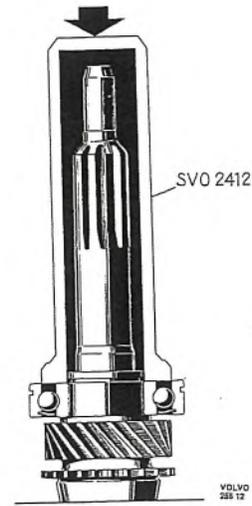

Fig. 4-22. Installing ball bearing on input shaft
4. Press the bearing onto the input shaft with the help of drift 2412, see Fig. 4-22. Select a circlip of suitable thickness and fit it. Place the 14 bearing rollers for the mainshaft in position in the input shaft. Use grease to hold the rollers in place. Press the input shaft into position in the housing. Press the oil seal into the cover with drift 2867.